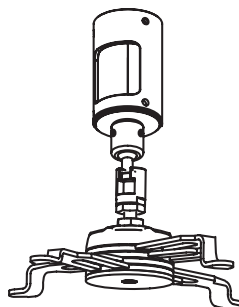

Figure 6
- ① Attach Bracket Adapter and Ball Joint Assembly to column (1½" NPT pipe) and secure with provided screw. For increased security, replace the standard screw with a security screw (provided). For additional security, remove the three standard screws holding the Ball Joint in the Bracket Adapter, and replace with provided security screws.
- ② If appropriate, run cabling down through pipe and out through opening in Bracket Adapter.
- ③ Install Universal Projector Bracket on projector if applicable (see separate instructions). Then, attach bracket and projector to Accuset ball joint (see Fig. 6).
- ① Screw Flush Extension into Ceiling Plate.
- ② Attach Bracket Adapter and Ball Joint Assembly to Flush Extension and secure with provided screw. For increased security, replace the standard screw with a security screw (provided). For additional security, remove the three standard screws holding the Ball Joint in the Bracket Adapter, and replace with provided security screws.
- ③ Use ceiling plate to mark ceiling.
- ④ If appropriate, run cabling down through Flush Extension and out through opening in Bracket Adapter.
- ⑤ Attach plate to ceiling. If using optional Angled Mounting Plate, attach Ceiling Mounting Plate to Angled Mounting Plate using ¼"-20 x 5/8" long hex head screws (provided), then attach Angled Ceiling Mounting Plate to ceiling (hardware for ceiling attachment not included).
- ⑥ Install Universal Projector Bracket on projector if applicable (see separate instructions). Then, attach bracket and projector to Accuset ball joint (see Fig. 6).